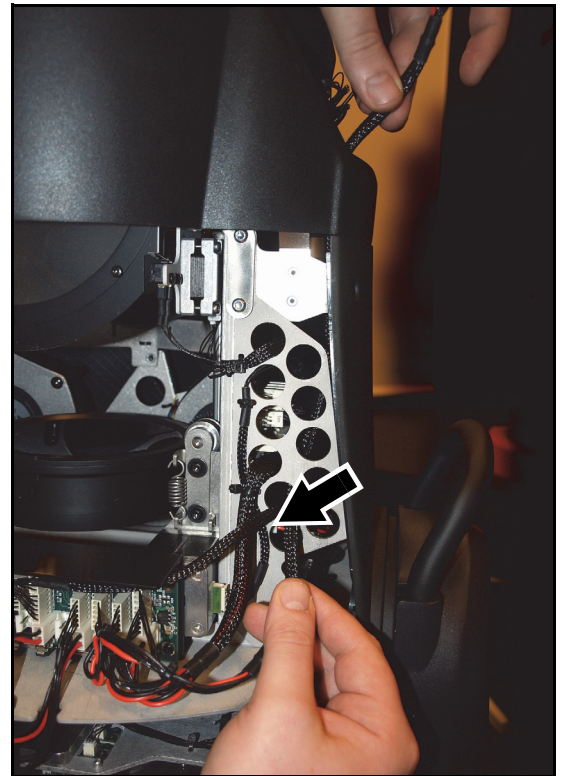

Figure 6
8. See Figure 6. Route the Quadray Module's wireset through the head chassis as shown. The connectors at each end are identical, so it does not matter which way round you install the wireset.